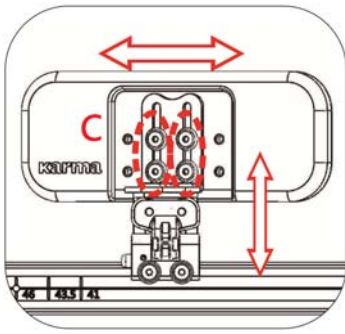

Figure 5-134
5.3.11.4 Use the #4 Allen Key Wrench to loosen the screws C. The hip support pad can be moved up or down. Re-tighten all screws. (Figure 5-134)
5.3.11.5 Several holes can be selected to adjust the horizontal position of the hip support pad. Use the #4 Allen Key Wrench to remove the screws C. Move the hip support pad forwards or backwards. Re-tighten all screws. (Figure 5-134)